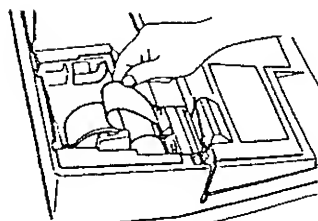

Fig. 8
5. Insert the paper end into the journal inlet while holding the **JF** key pushed down (Fig. 8).